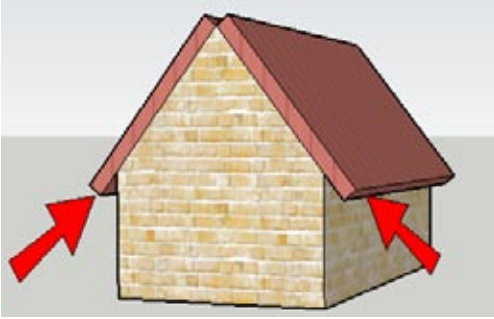

Figure 5-3
3. Use Push/Pull again to pull down both bottom faces (Figure 5-3).